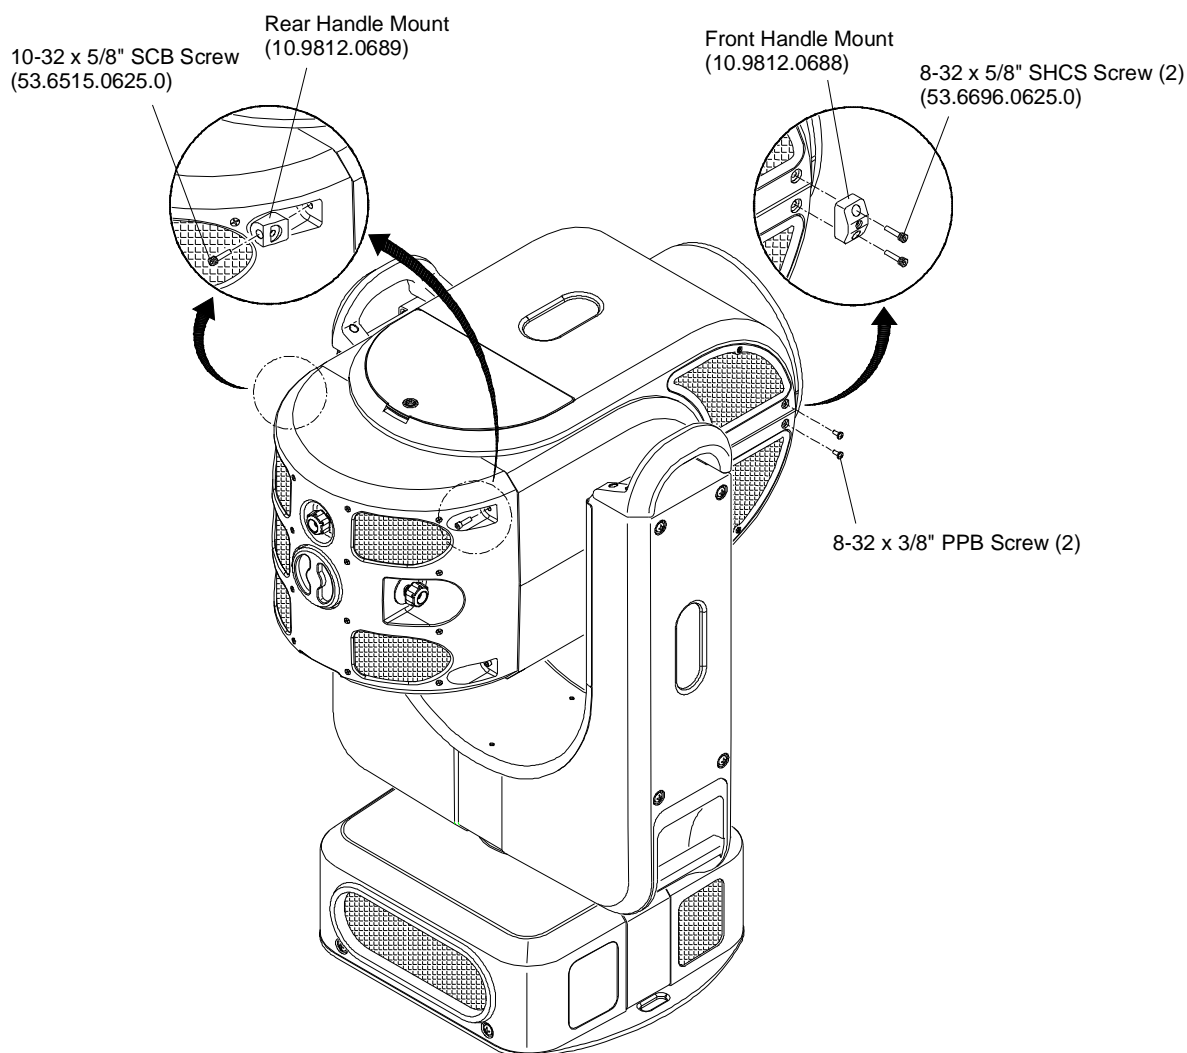

Figure 2-18: Installing Manual Followspot Handles - Step 1
- Step 1. At Head Cover, remove two 8-32 x 3/8" PPB screws as shown in **Figure 2-18**.